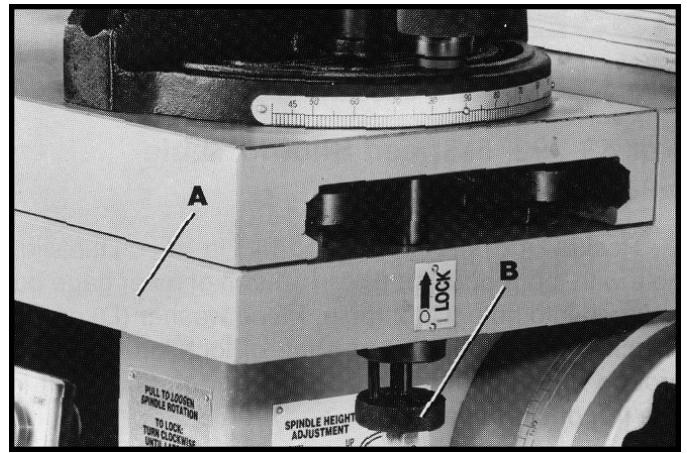

Fig. 52
1. To operate the sliding table (A) Fig. 52, pull out and rotate knob (B) until it stays in the out position as shown. The sliding table can then be moved back and forth.